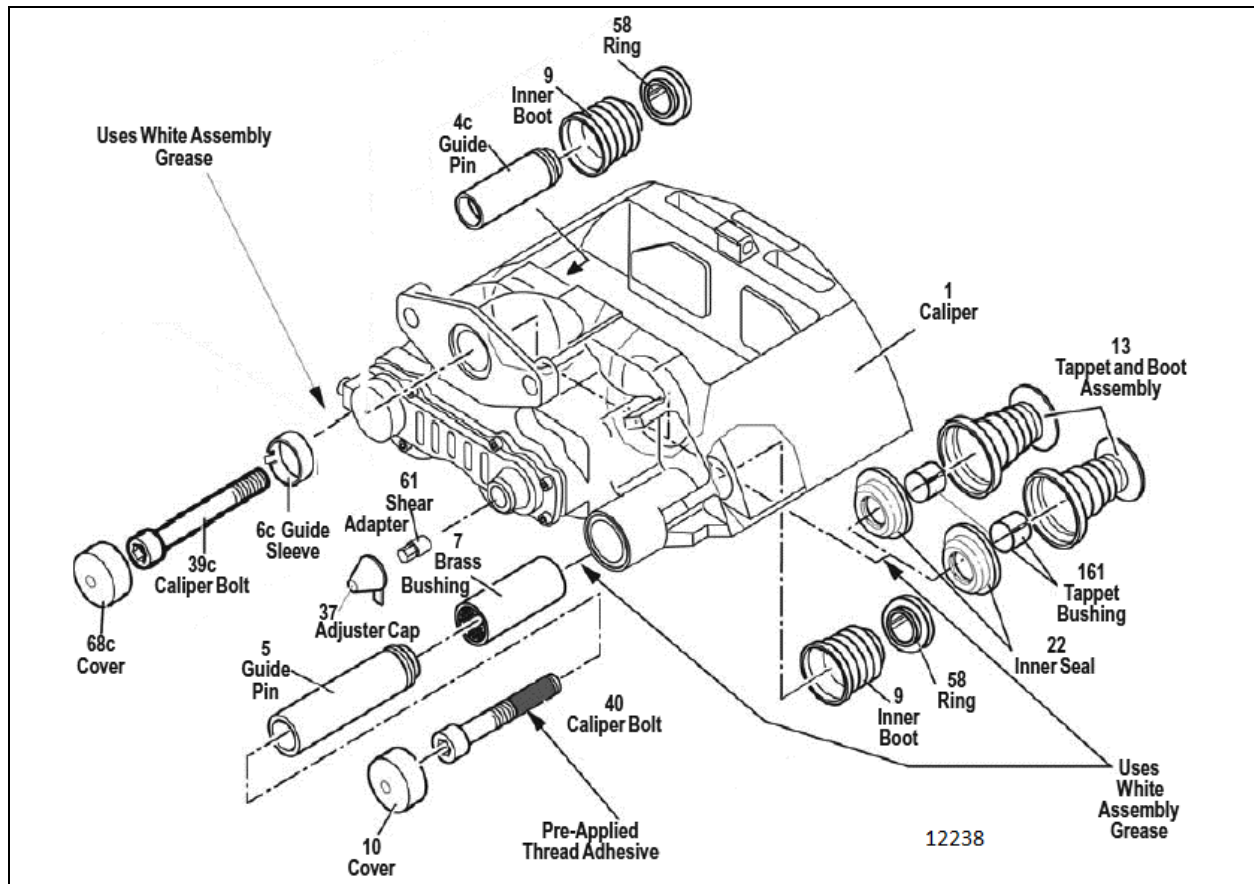

FIGURE 22: BRAKE COMPONENTS
Additionally, inspect the tappet and boot assemblies (13, Figure 22), the adjuster cap (37) and the sealing elements (9, 58) for correct fitting and condition as well as the caliper bearing in the area of the rubber bush/guide sleeve (6) (see *Knorr-Bremse Pneumatic Disc Brake Y006471 Service Manual*).